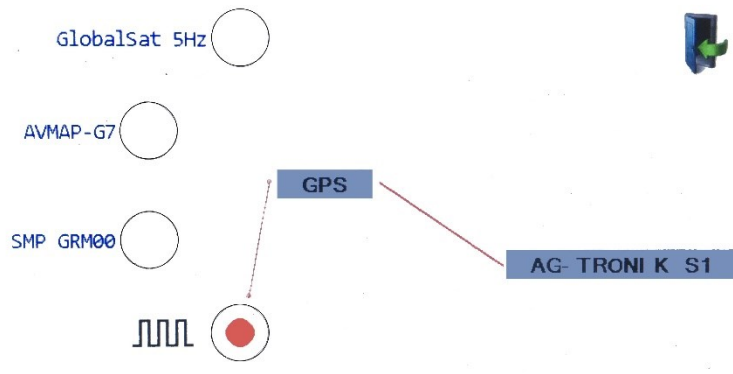

Figure 30
- From main menu (Figure 30) enter the sub menu by pressing  icon and select  (Figure 30).